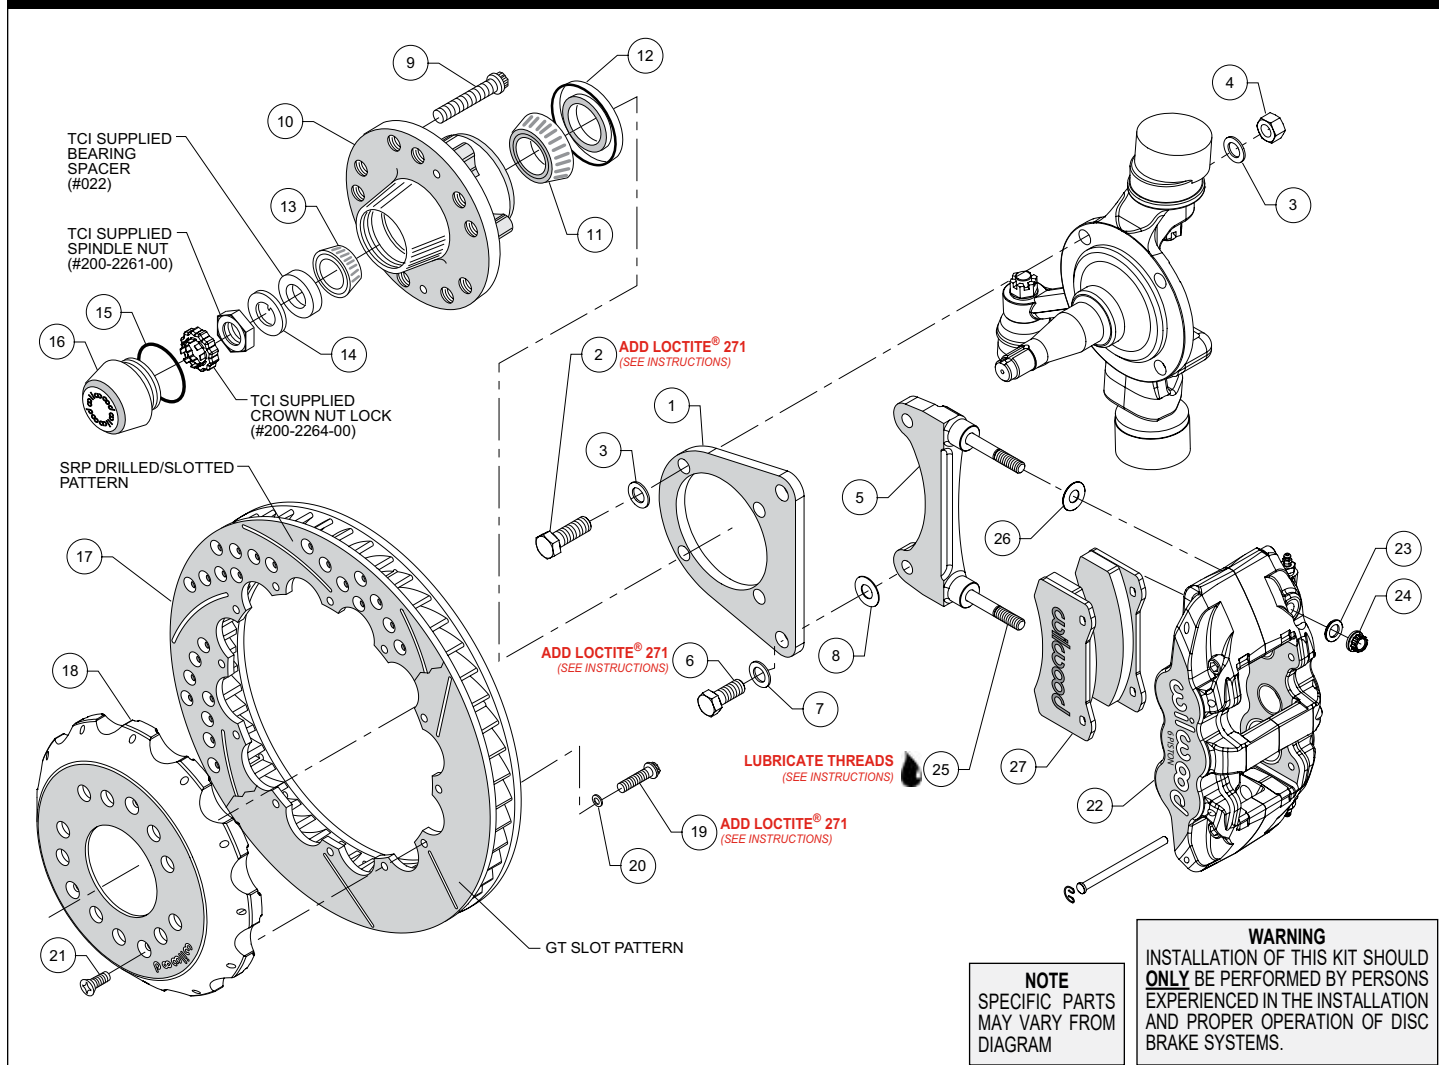
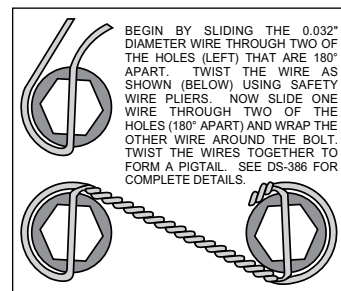

Figure 1. Typical Installation Configuration
Figure 3. Safety Wire Diagram
**NOTE:** Numbers in parenthesis refer to the parts list and Figure 1 on the preceding pages.
- Orient the flat bracket (1) as shown in Figure 1, and Photo 1, and install using bolts (2), washers (3), and nuts (4). **NOTE:** The two lower mount bolts thread directly into the steering arm. Temporarily tighten the mounting bolts. **NOTE:** The bracket must fit squarely against the spindle face. Inspect for interference from casting irregularities, machining ridges, burrs, etc. After the bracket alignment has been checked, remove the bracket mounting bolts (or nuts) one at a time and apply red *Loctite*® 271 to the threads. Torque bolts to 77 ft-lbs.
- The radial mount caliper bracket (5) should initially be installed with clean, dry threads on the mounting bolts. Orient the bracket as shown in Figure 1, and Photo 2, and install using bolts (6), and washers (7). Initially place one .033" thick shim (8) on each bolt between the flat bracket (1) and radial mount caliper bracket (5), Figure 1. Temporarily tighten the mounting bolts. Later, after the caliper alignment has been checked, the mount bolts will be secured using red *Loctite*® 271.
- Install wheel studs (9) into the hub (10), Photo 3. Torque to 77 ft-lb. **NOTE:** There are two five lug patterns in the hub (5 x 4.50 and 5 x 4.75). Ensure the correct hub stud pattern is being used to fit the wheel application.
- Pack the large inner bearing cone (11) with high temperature disc brake bearing grease (available from your local auto parts store) and install into the backside of the hub (10), Photo 4.
- Install the grease seal (12) by pressing into the backside of the hub (10), flush with the end of the hub, Photo 4.
- Pack the small outer bearing cone (13) with high temperature disc brake bearing grease and install into hub (10), Photo 5. Slide the hub assembly onto the spindle. Install TCI supplied
- Screw dust cap (16) into hub (10), Photo 6. Friction created by the o-ring (15) on the dust cap keeps it from unscrewing.
**NOTE:** The O.D. of the existing spindle washer may be larger than the I.D. of the dust cap not allowing it to seat against the hub face. Therefore, use the spindle washer (14) supplied with the kit.
- Orient the rotor (17) and the hat (18) as shown in Figure 1 and Photo 7. Attach rotor to hat using bolts (19) and washers (20). Apply red *Loctite*® 271 to the bolt threads and torque to 155 in-lb using a criss-cross pattern. For an added measure of security, the bolts may be safety wired using standard 0.032 inch diameter stainless steel safety wire as shown in Figure 3. Please refer to Wilwood's data sheet DS-386 (available at [www.wilwood.com/Pdf/DataSheets/ds386.pdf](http://www.wilwood.com/Pdf/DataSheets/ds386.pdf)) for complete safety wire installation instructions.
- NOTE:** This kit contains distinct right and left hand calipers that must be mounted in a specific direction, as described below. Lubricate the caliper mounting studs (25) with lightweight oil. Initially place one .030" thick shim (26) on each stud between the caliper and the bracket, as shown in Figure 1 and Photo 9. Mount the caliper (22) onto the bracket (5) using lock nuts (24) and washers (23), Figure 1. Ensure that the caliper is mounted so the largest pistons are at the rotor exit end of the caliper, in relation to the direction of rotor rotation. Temporarily tighten the lock nuts and view the rotor through the top opening of the caliper. The rotor should be centered in the caliper, Photo 10. If not, adjust by adding or subtracting shims (8) between the flat bracket and the radial mount bracket. Always use the same amount of shims on each of the two mounting bolts. Once the caliper alignment is correct, remove the radial mount bracket bolts one at a time, apply red *Loctite*® 271 to the threads, and torque to 60 ft-lb.
- Remove the two pad retaining pins from the caliper by carefully popping out the pin retaining clips and sliding out the pins. Insert the brake pads (27) into the caliper from the bottom, Figure 1, with the friction material facing the rotor and secure the brake pads in place with the pad retaining pins and clips, Photo 11. Reinstall the